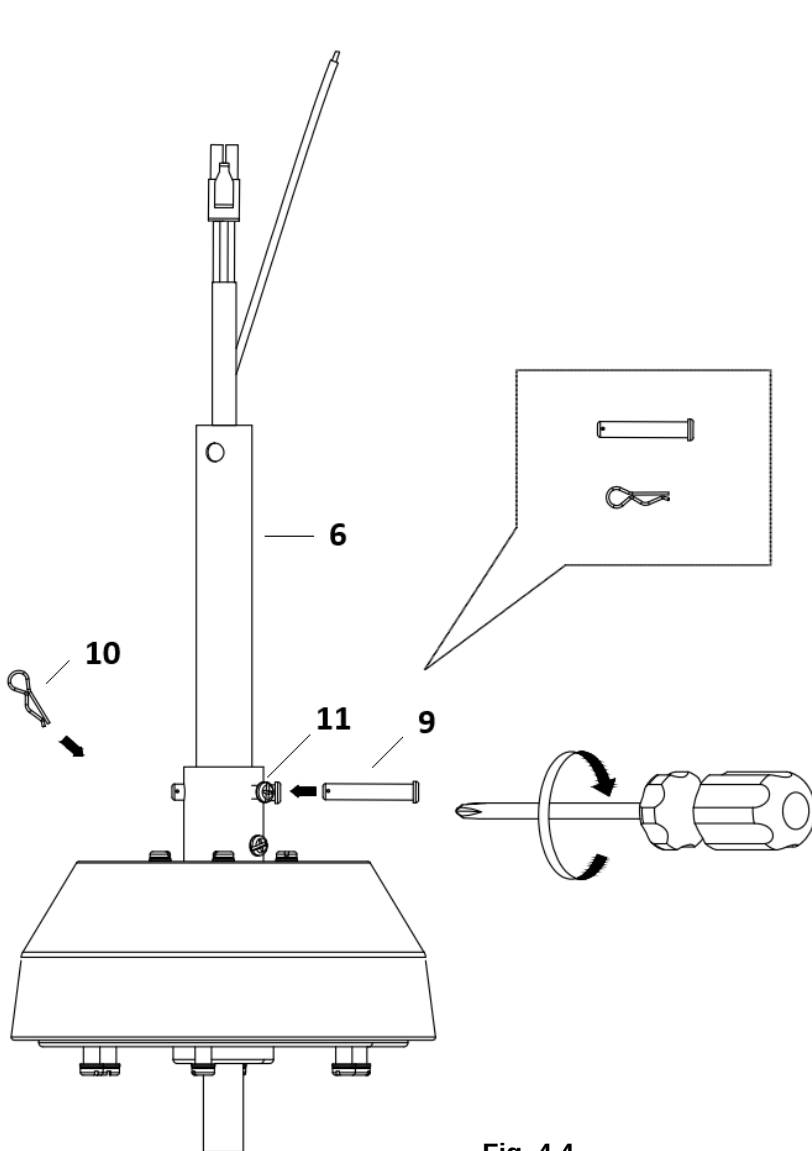

Fig. 4.4
3. Assemble the down rod (6) into the down rod coupling housing (8), by inserting and line up the down rod coupling housing holes with the down rod holes and insert the hitch pin (9) and secure with the lock clip (10). (Fig. 4.4)
Secure the down rod (6) by tightening the set screws (11). (Fig. 4.4)